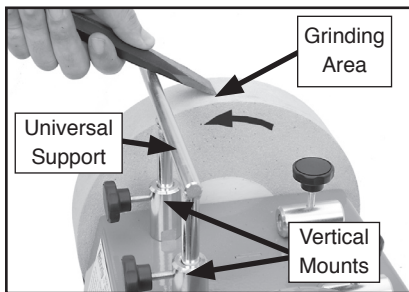

Figure 6. Vertical mount.
2. Attach the universal support in the vertical mounts as shown in **Figure 6**. Be sure it is securely positioned and will not move during grinding.